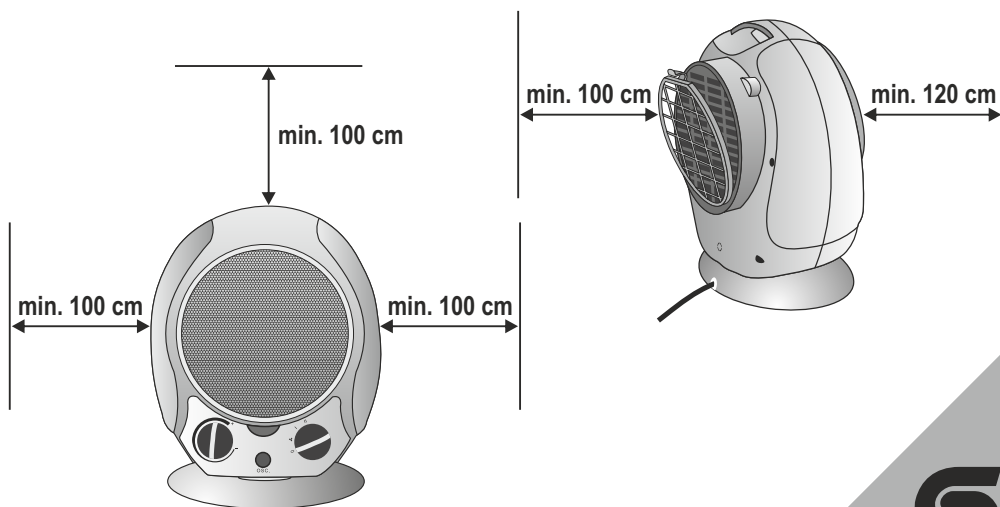

figure 2. • 2. ábra • 2. obraz • figura 2. • 2. skica • 2. skica • 2. obrázek • rys. 2. • 2. slika
1. Confirm that the appliance has not been damaged in transit. 2. Never locate the unit directly in corners and observe the minimum mounting distances indicated in Figure 2. Always observe the health and safety regulations valid in the country of use. 3. The appliance must not be used with programmable timers, timer switches or stand-alone remote controlled systems that can automatically turn the unit on because any covering or improper location of the unit can cause a fire hazard. 4. The appliance should be used as intended for heating air, not for general heating purposes. 5. The stream of hot air should not be aimed directly at curtains or other flammable materials. 6. The grill covering the air outlet opening can be hot. 7. Do not locate near flammable materials. (min. 100 cm) 8. Do not use in locations where flammable vapors or explosive dust may be present. Do not use near flammable materials or in potentially explosive atmospheres. 9. Operate only under constant supervision. 10. Do not operate unattended in the presence of children. 11. Only for indoor use, in a dry place. Protect from humidity (e.g. bathrooms, swimming pools). 12. It is PROHIBITED to use the unit near bathtubs, basins, showers, swimming pools or saunas. 13. It is prohibited to use the appliance in motor vehicles or in confined spaces such as elevators. 14. When not planning to use the unit for an extended period of time, switch it off then remove the power plug from the outlet. 15. Always remove power from the heater before relocating it. 16. Lift only by its flush carrying handle! 17. Do not locate the appliance directly below or next to a wall outlet. 18. If any irregular operation is detected (e.g., unusual noise or burnt odor from unit), immediately switch it off and remove the power plug. 19. Make sure that no foreign objects or liquid can enter the unit through the openings. 20. Protect from dust, humidity, sunlight and direct heat radiation. 21. Power off the unit by unplugging it from the electric outlet prior to cleaning. 22. Do not touch the unit or the power cable with wet hands. 23. The appliance may only be connected to properly grounded 230 VAC/50Hz electric wall outlets. 24. Unwind the power cable completely. 25. Do not use extension cords or power strips to connect the unit. 26. Do not lead the power cable on top of the appliance or near the air inlets and hot air outlets. 27. Do not lead the power cable under carpets, door mats, etc. 28. The appliance should be located so as to allow easy access and removal of the power plug. 29. Lead the power cable so as to prevent it from being pulled out accidentally or tripped over. 30. The unit is intended for household use. No industrial use is permitted.
3. Set the appliance on a stable and horizontal surface. The free flow of warm air must be ensured for proper operation, therefore, please note the minimum installation distances indicated in **Figure 2**.
4. Verify that the unit's mode selector (3) is in the OFF "0" position.